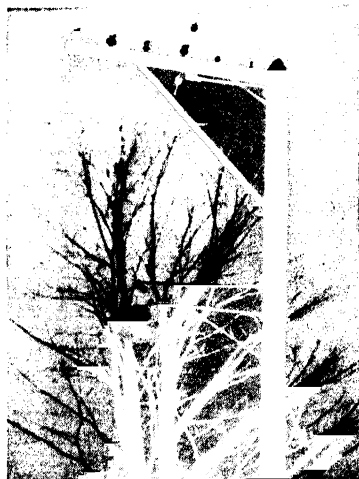

FIG. 13-7. Illustrating use of side arm where buildings or trees interfere. (Courtesy Line Material Co.)
**Side Arms.** Side arms are used in alleys or other locations where it is necessary to clear buildings, etc. (Figs. 13-7 and 13-8).